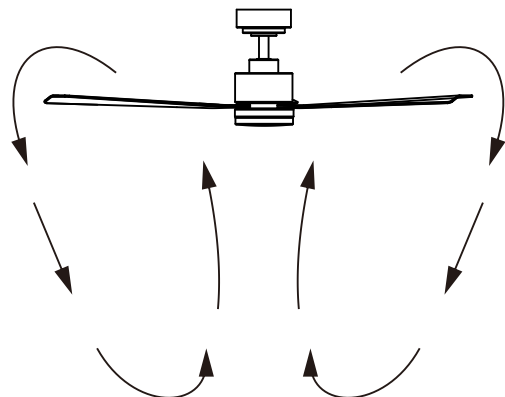

Figure 28
- Cool weather-(Reverse) An upward airflow moves warm air off the ceiling area as shown in (Fig.28) This allows you to set your heating unit on a cooler setting without affecting your comfort.